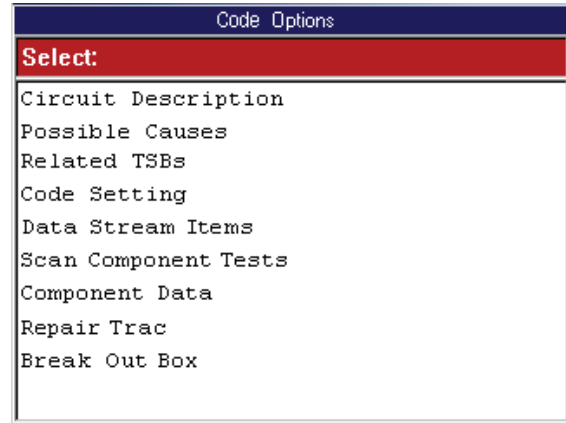

Figure 4.4: Code Options Screen
- 3 If the status bar indicates related information is available, press the **ENTER** key. This displays a Code Options screen (Figure 4.4).